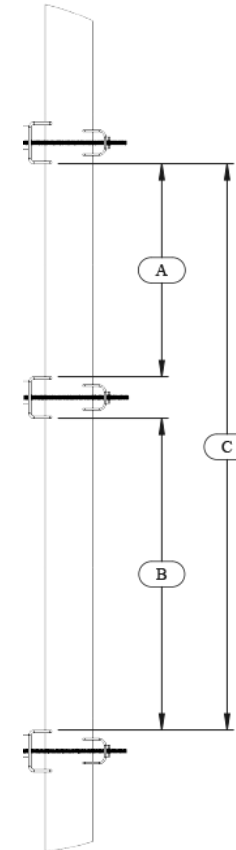

Figure 4: Bracket heights for X7C/C7C
3. Measure the distances separating the brackets. See Figure 4 and Table 2.